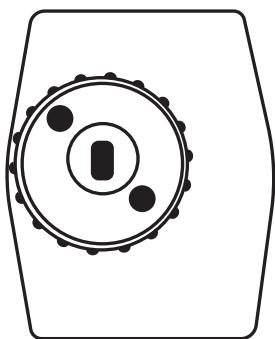
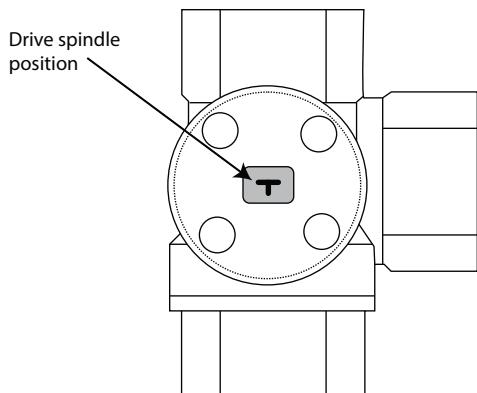
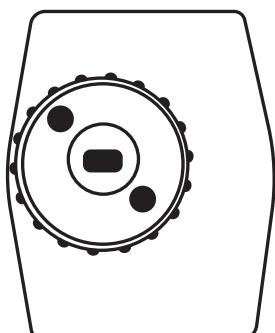
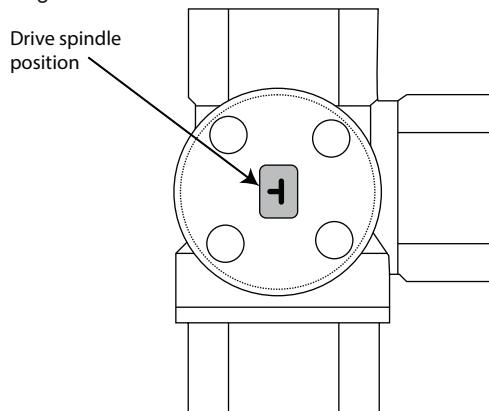

Figure B-2: Actuator spindle slot position - DHW
Figure B-3: Option 1 - Drive spindle position
Figure B-4: Actuator spindle slot position - Heating
Figure B-5: Option 2 - Drive spindle position
Refer to Figure B-3 and Figure B-5 for the installation options based on valve orientation. These show the position of the drive spindle indicator required to ensure the valve is set to function correctly once the actuator is mounted.
- For **OPTION 1** – If the actuator spindle slot is correct in Figure B-2, set the 'T' on the end of the valve drive spindle to point as shown in Figure B-3.
- If the actuator is in the position shown in Figure G-4, rotate the valve drive spindle 90° clockwise from the position shown in Figure B-3.
- For **OPTION 2** – If the actuator spindle slot position is correct as shown in Figure B-2, set the 'T' on the end of the valve drive spindle to point as shown in Figure B-5.
- If the actuator is in the position shown in Figure B-4, rotate the drive spindle 90° clockwise from the position shown in Figure B-5.
The valve should be wired to the Grant Aerona Smart controller as shown in Figure B-4.